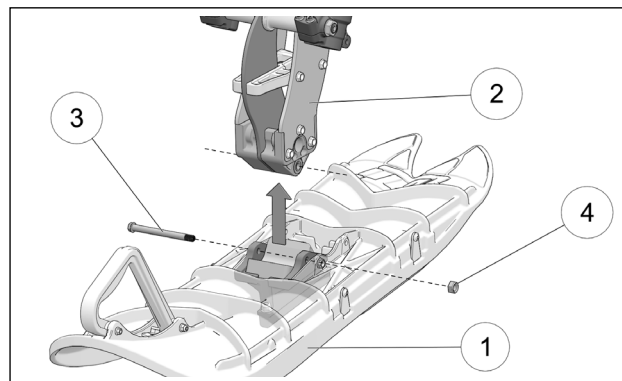

Figure 12
- Position ski (1) to spindle (2) and align holes in ski's base with mounting hole in spindle. Insert M10x110mm bolt (3) and secure with M10 locking nut (4). Tighten assembly to 55 Nm [38lb-ft] of torque. See Figure 12.